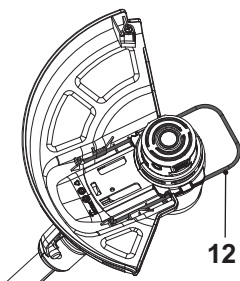

Fig. 12, storage position
2. Push the plant protector (12) in for transport and storage (Fig. 12).